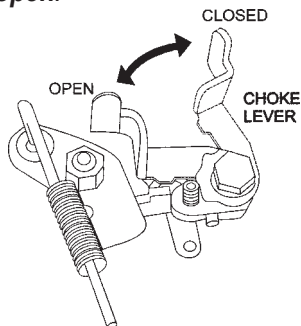

Figure 8. Choke Lever
4. In cold weather, start the unit with choke lever "Fully Closed" (Figure 8). In warm weather or when the engine is warm, the unit can be started with choke halfway or completely **open**.
6. If engine fails to start, move the choke lever (Figure 8) to the half open position to avoid flooding.